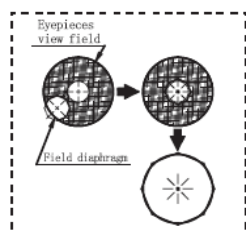

Fig. 13
a.1 If you have to re-center the condenser when the microscope illumination Kohler is with field diaphragm (Fig.13)